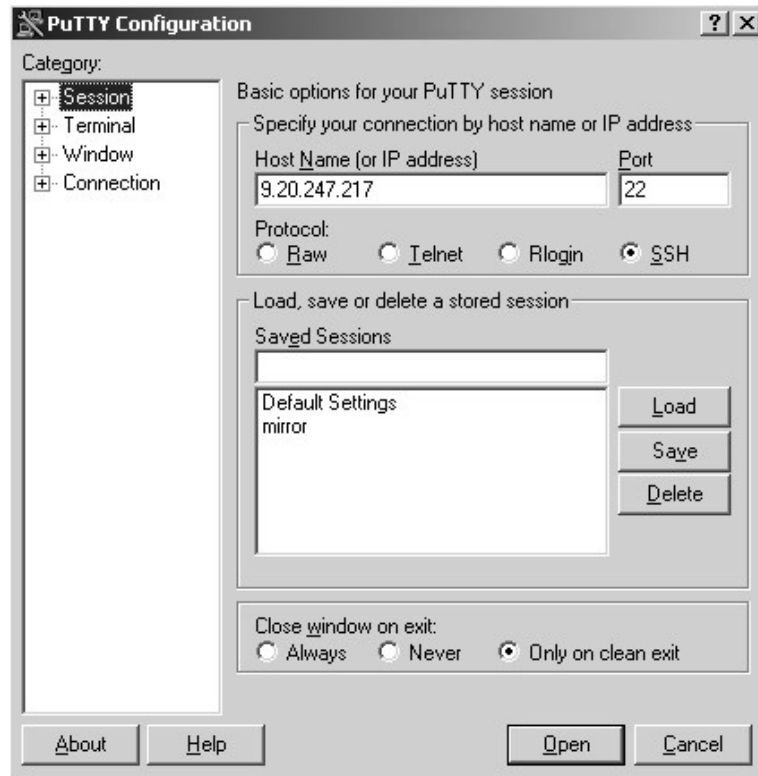

Figure 26. PuTTY Configuration panel –Basic options
2. The PuTTY Configuration panel is displayed; see Figure 26 on page 13. Enter the IP address for the device (usually the cluster IP address) in the **Host Name (or IP Address)** field, and select the **SSH** option for the protocol.